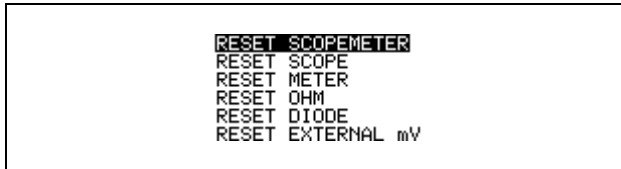

Figure 6-12. Reset Menu Window
2. Press  to open the RESET menu (see Figure 6-12).